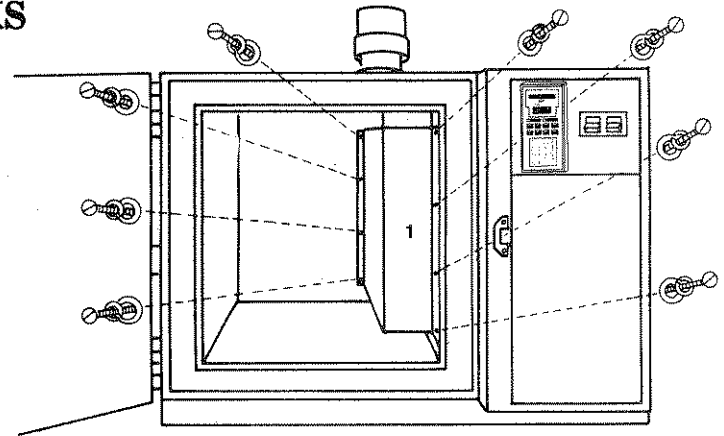

FIGURE D4
3. Remove the eight screws that hold the baffle (1) to the chamber. See Figure D4.